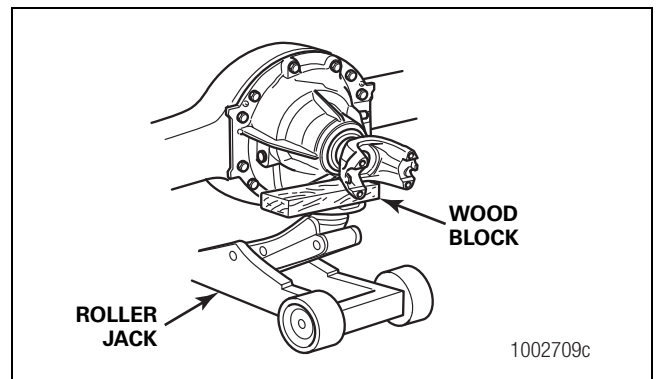

**Figure 3.5**
5. Disconnect the driveline universal joint from the pinion input yoke or flange on the carrier. Figure 3.5.